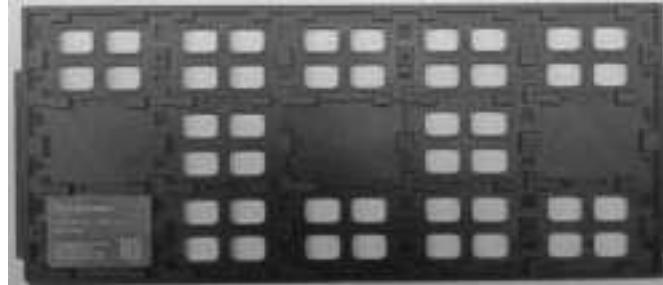

Figure 4-4.Single-layer Tray Packaging
Refer to Figure 4-4 below for single-layer tray packaging. The SOM modules shall be chamfered per the tray chamfer and loaded according to the sequence of IMEI number. One Plastic tray(③) can be loaded with 15 sets of SOM.